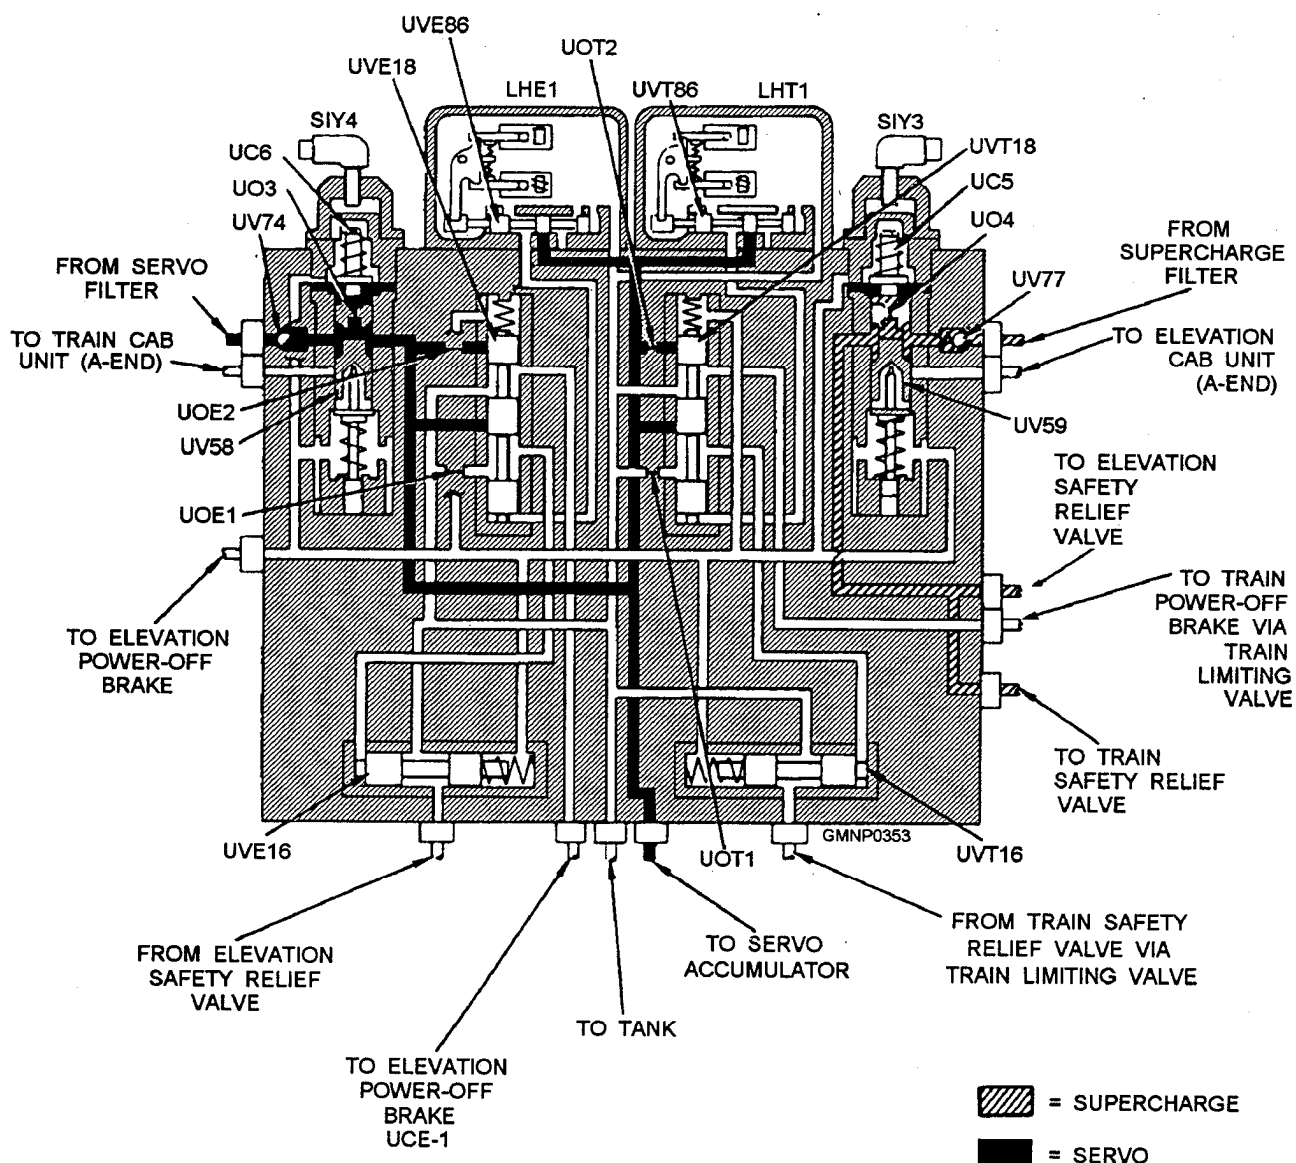

Figure 6-6.—Auxiliary relief valve block (elevation motor started).
**AUXILIARY RELIEF VALVE BLOCK.**— The auxiliary relief valve block (fig. 6-6) is mounted in the middle of the right trunnion support. Its purpose is to limit supercharge fluid pressure to 150 psi, limit servo fluid pressure to 450 psi, control the operation of the power-off brake, indicate by means of switches the availability of supercharge and servo fluid pressures,